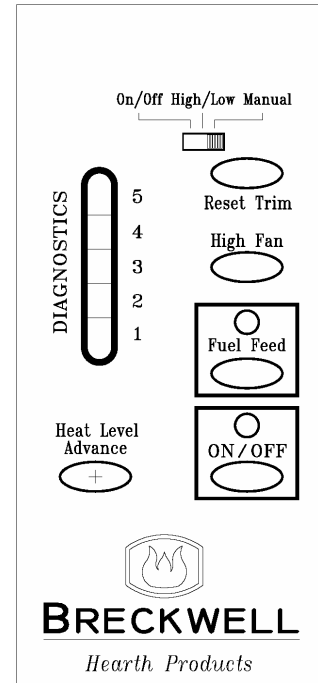

FIGURE 11
PANEL CONTROLS (See Figure 11)
- The green light located above the On/Off button (in the On/Off box) will flash during the ignition start-up period. (See figure 11)
- While the stove’s auger system is feeding pellets the green light (in the “Fuel Feed” box) will be on. (See figure 11)